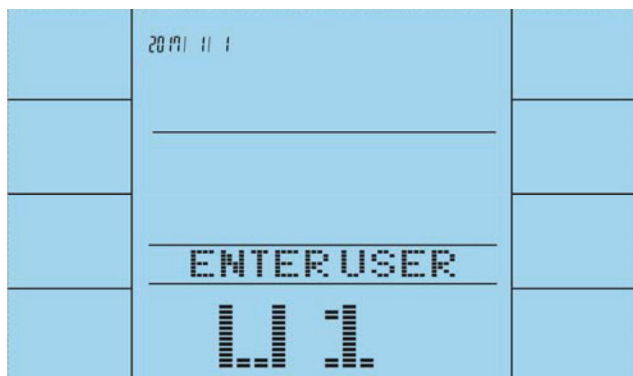

Fig. 6
5. To choose the user (U) form 1 to 4, press the UP/DOWN buttons.
6. Confirm with ENTER (fig. 6).